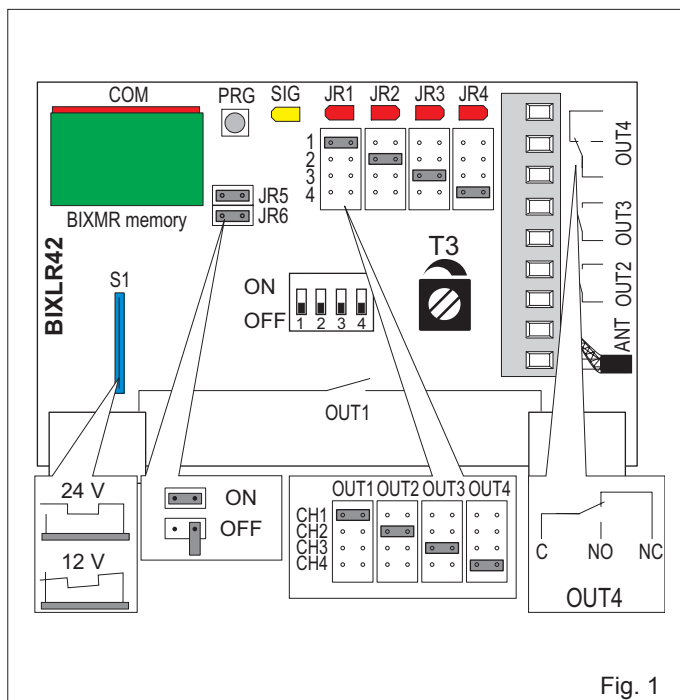

Fig. 1
2. RICEVITORE (fig. 1)
3. SELEZIONE CANALI-USCITE (fig. 1)
2. RECEIVER (fig. 1)
3. SELECTION OF CHANNELS-OUTPUTS (fig.1)